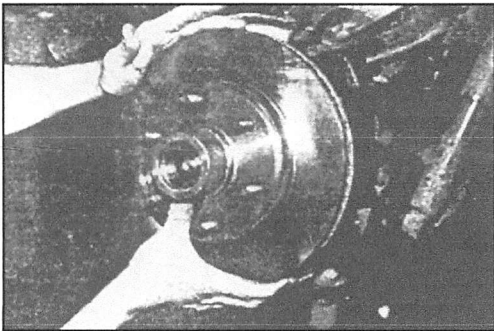
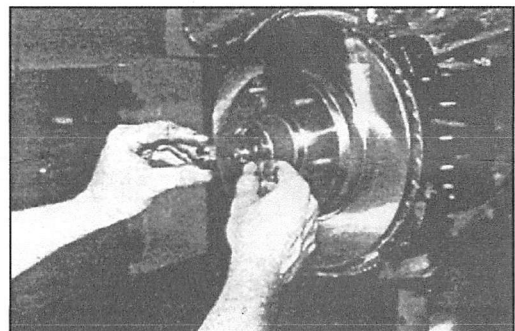

Fig. 7a
Fig. 7b
Step 7: Install the rotor onto the spindle pin (Fig. 7a). Pack the new outer wheel bearing with high temp grease and install with the slotted washer and the castle nut (Fig. 7b).